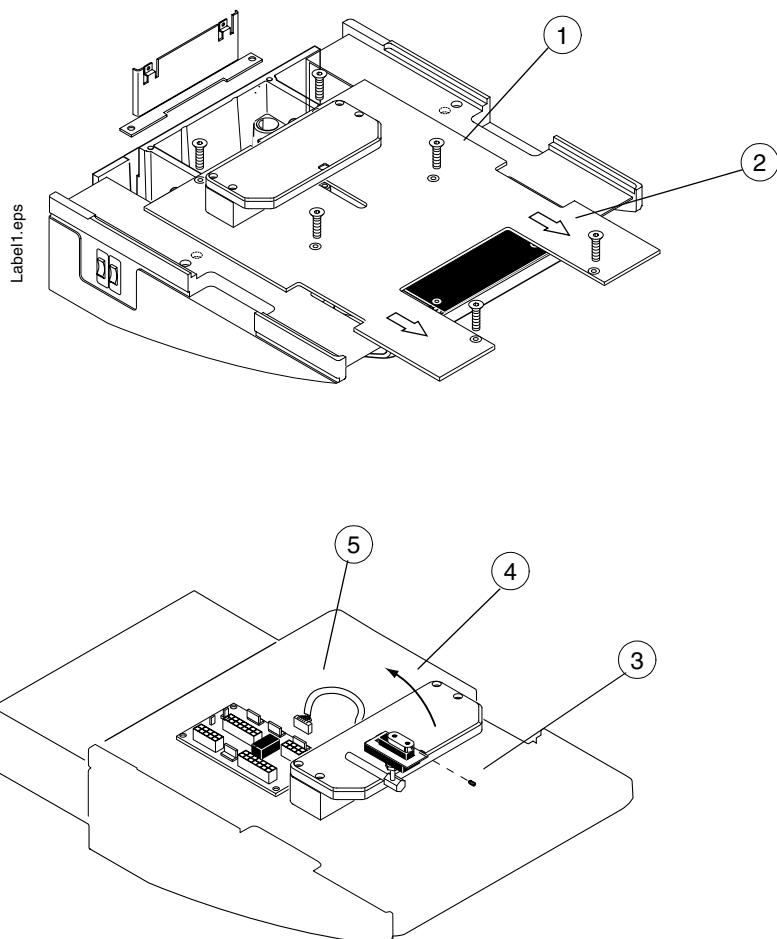

Figure H.41
- a) Unscrew the six table cover screws (Fig. H.41, 1)
- b) Lift up the table cover slightly and pull it away from the table casting (Fig. H.41, 2).
- c) Unscrew the M4x8 DIN 914 labeling head fastening screw (Fig. H.41, 3). Turn the labeling head carefully upwards (Fig. H.41, 4) and lift it from its position.
- d) Disconnect the labeling head cable from the Shelf collector PCB connector P8 (Fig. H.41, 5).